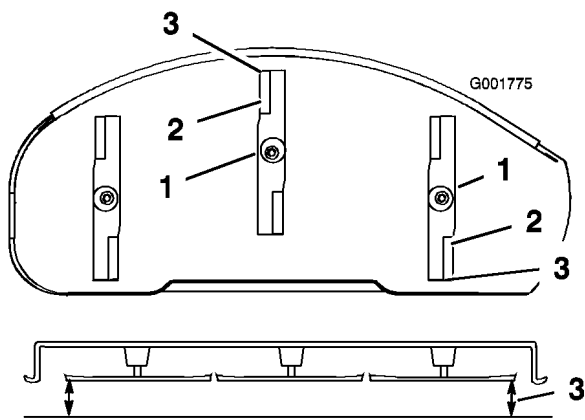

Figure 44
9. Set the height-of-cut at position 4 [4 inch (108 mm)] and carefully rotate the blades so they are facing front to rear (Figure 44).
10. Measure from the tip of the front blade to the flat surface and the tip of the rear blade to the flat surface (Figure 44). If the front blade tip is not 1/16-5/16 inch (1.6-7.9 mm) lower than the rear blade tip, adjust the front locknuts.